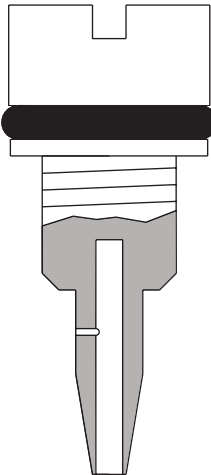

Fig. 14
5.2.1 Removal and cleaning of sensitivity adjuster (see Figure 14):